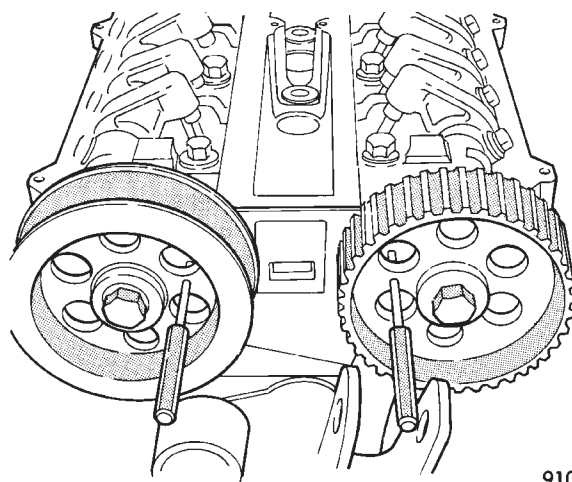

Fig. 9 Camshafts Pinned Into Position
- (4) Align and pin both intake and exhaust cam sprockets with 3/32 drills or pin punches (Fig. 9). **Accessory Shaft does not need to be timed.**
- (5) Remove spark plugs.